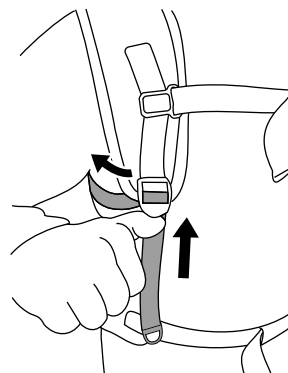

Figure 13
6. If the shoulder straps or load lifter straps are too tight, push up on the adjusters to lengthen the strap (Figure 13).